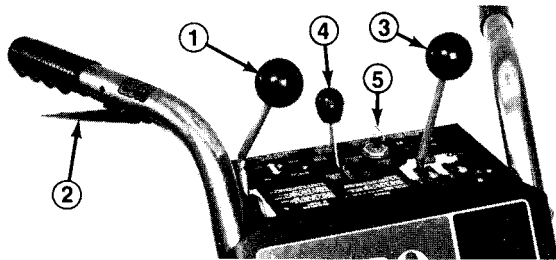

Figure 15
**Auger Drive Control (Fig. 15)** — Control has two positions: ENGAGE and DISENGAGE. To engage auger and impeller, push control forward until it stops in an over center position. To disengage auger and impeller, pull control backward.
**Interlock Lever (Fig. 15)** — Interlock lever must be compressed against right handle grip when auger drive or wheel drive control is engaged. The engine will shut off if lever is released when auger drive or wheel drive control is engaged. This is a safety feature that reminds the user to disengage auger drive and wheel drive controls before leaving operator's position behind the handles.
**Wheel Drive Control (Fig. 15)** — The control has seven positions: N—neutral (2), R1 and R2—reverse, 1, 2, and 3. To change speeds, move gear shift to position desired. Control must be held in R—reverse—when backing and when it is released, gear shift automatically returns to neutral. Use positions 1, 2, and 3 depending on snow conditions. Keep interlock lever compressed when shifting.
**Throttle (Fig. 15)** — Moving the throttle forward increases engine speed.
**Ignition Switch (Fig. 15)** — Switch has two positions: ON and OFF. Rotate key to ON before starting engine with the recoil starter. To stop engine, rotate key to OFF.